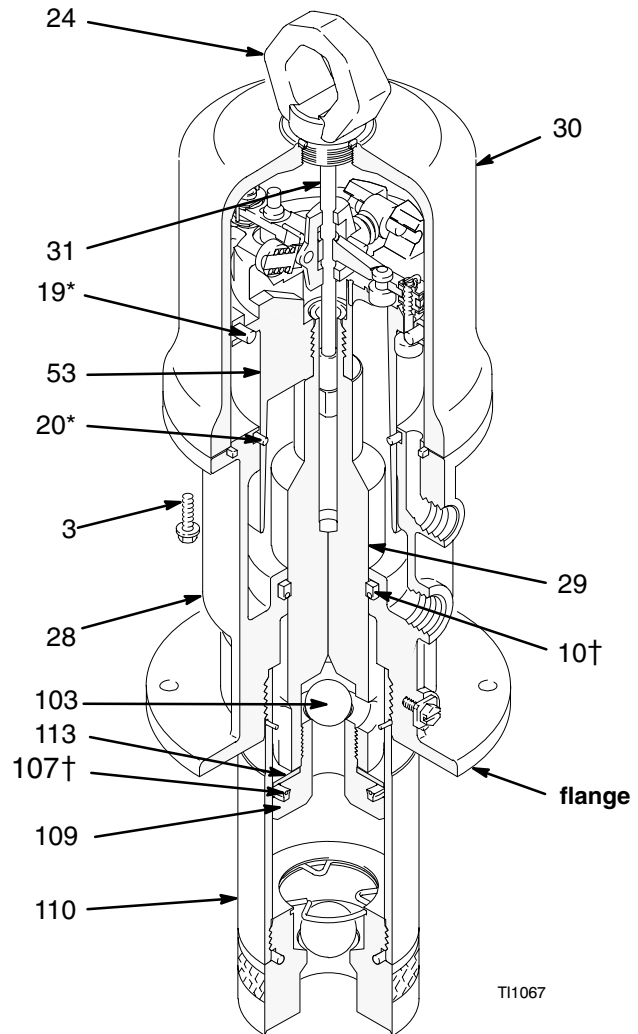

Fig. 3
2. Disconnect the hoses, remove the pump from its mounting, and clamp the air motor base (28) in a vise horizontally by closing the vice jaws on the flange.
3. Use a strap wrench on the displacement pump cylinder (110) to screw it out of the air motor base (28). See Fig. 3.
4. Remove the air motor base from the vise, and place the piston rod (29) flats in the vise with the air motor up.
5. Loosen the lift ring (24). Pull the lift ring up, grip the trip rod (31) with the padded pliers, and screw the lift ring off of the rod.
6. Remove the piston/valve seat (109) from the rod (29) with wrenches or with the vise and a wrench.
7. Remove the piston ball (103), u-cup packing (107†), and piston washer (113).
8. Remove the six screws (3) holding the cylinder (30) to the base (28). Carefully pull the cylinder straight up off of the piston (53).
- Slide the piston rod (29) down through the packing, and lower the piston (27) into the air motor base (28).
- Clamp the air motor base (28) in a vise horizontally by closing the vice jaws on the flange.
- Install the u-cup packing (107†) with the lips up, and place the piston washer (113) on the piston/valve seat (109).
- NOTE:** Make sure the lips of the u-cup packing (107†) face up. See Fig. 3.
- Place the piston ball (103) in the piston rod (29).
- Apply Loctite® to the threads of the piston/valve seat (109), and thread the assembly from Step 14 onto the piston rod (29).
- Clamp the flats of the piston/valve seat (109) in a vice, and, using a crow's-foot wrench, torque the piston rod (29) to the piston valve seat to 40 to 60 ft-lb.
- Clamp the air motor base (28) in a vise horizontally by closing the vice jaws on the flange
- Use a strap wrench to screw the displacement pump cylinder (110) to the air motor base (28), and torque with a crow's-foot wrench to 95 to 105 ft-lb.